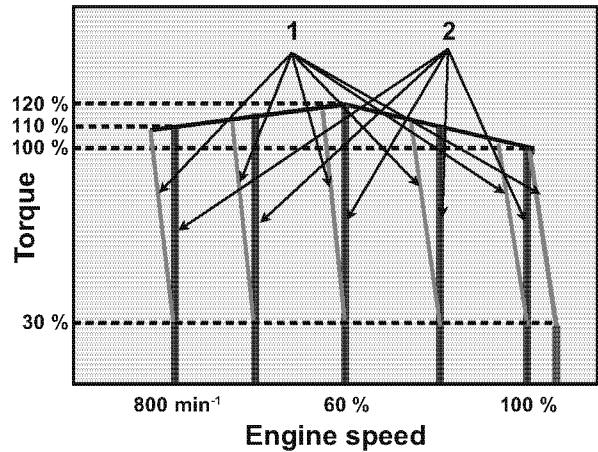

Figure 11
Figure 11 shows typical engine speed curves that outline the relationship between engine speed and load.
The VM series engines for general use are designed so that the engine speed is reduced by a certain percentage from 30 % load to full rated load. See curves (1) in **Figure 11** below. The same percentage droop is maintained at any no-load speed.
The CL series consists of isochronous design engines, the speed of which is kept constant from no load to full rated load. See curves (2) in **Figure 11** below.